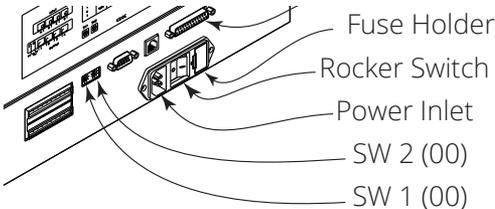

Fig. 36 — Rear panel showing the fuse holder location
A blown fuse may be replaced with a replacement fuse in the fuse holder (Fig. 36). If the replacement fuse blows, it indicates the existence of a serious electrical problems. Call WPI Technical Support at 866.606.1974 or email at [technicalsupport@wpiinc.com](mailto:technicalsupport@wpiinc.com).
- Locate the fuse holder on the rear panel (Fig. 36).